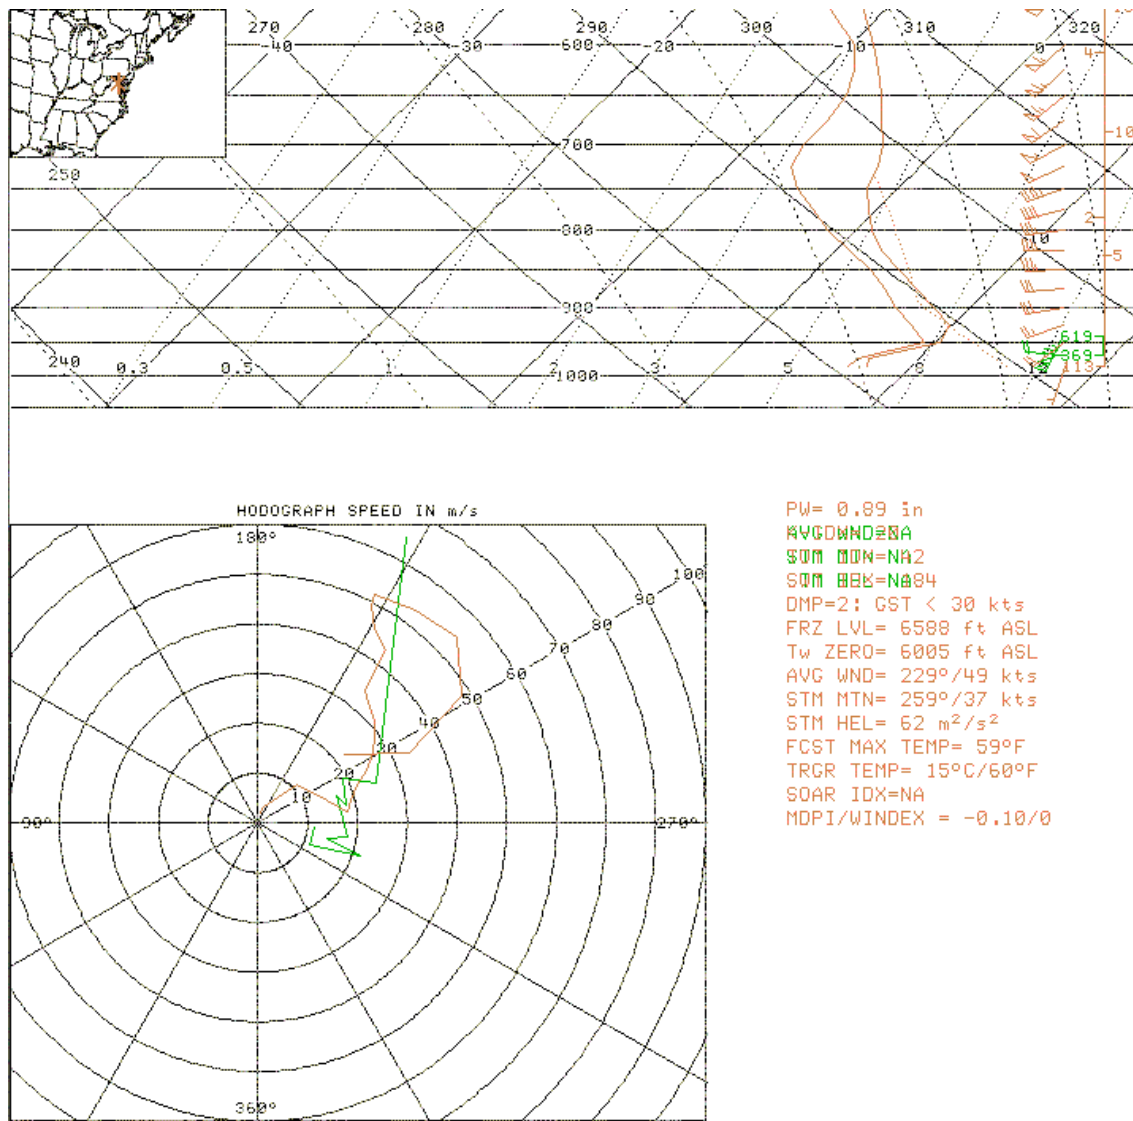

Figure 5-77. VWP hodograph (green) overlaid on Meso-Eta Hodograph (red).
2. *The VWP can be used to create/adjust hodographs(see Fig. 5-77 on page 5-132) .*